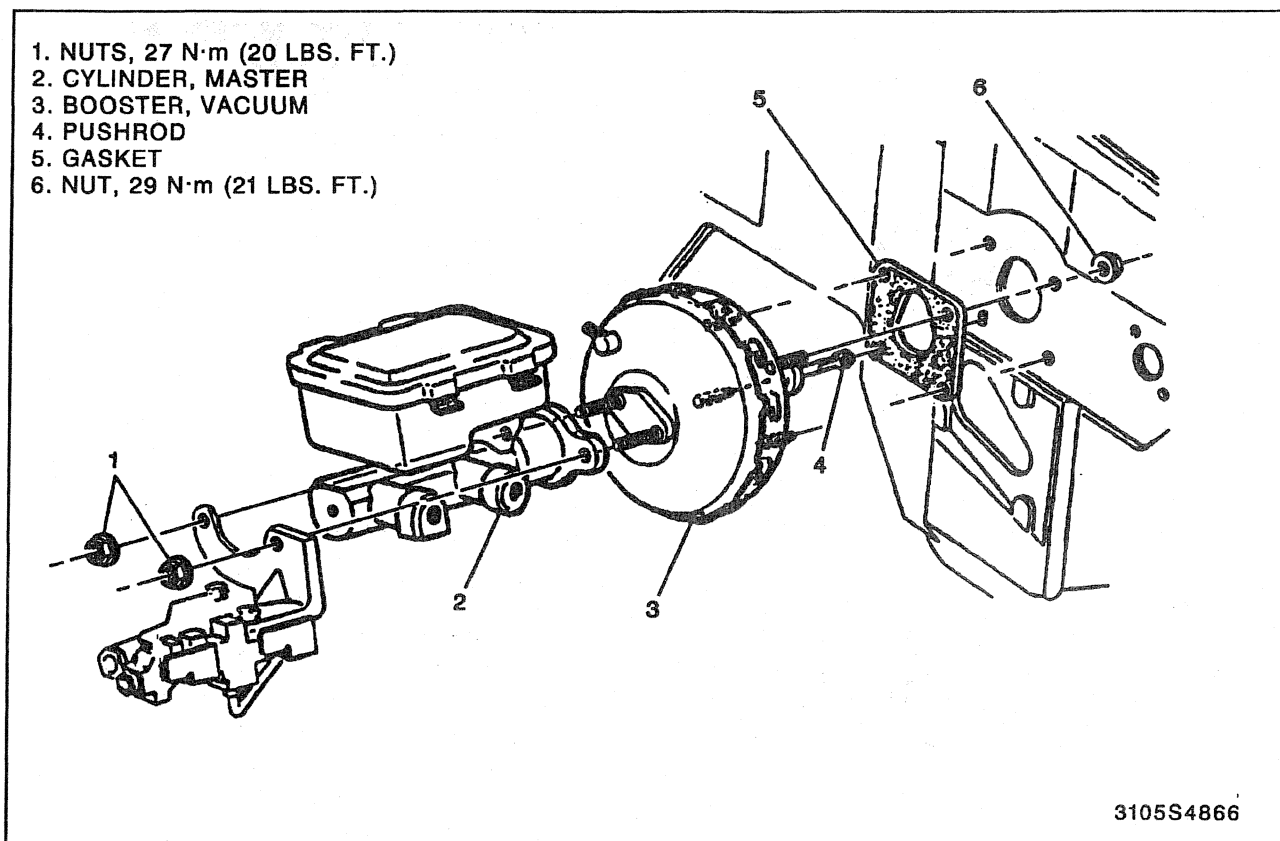

Figure 1—Vacuum Booster
**Remove or Disconnect (Figures 1 and 2)**
2. Nuts (1).
3. Master cylinder (4) and combination valve bracket (as used).
6. Pushrod (6).
7. Nuts (8).
8. Booster assembly (5).
9. Gasket (7).
**Install or Connect (Figures 1 and 2)**
1. Gasket (7).
2. Booster assembly (5).
3. Nuts (8).
- Nuts (8) to 29 N·m (21 lbs. ft.).
4. Pushrod (6).